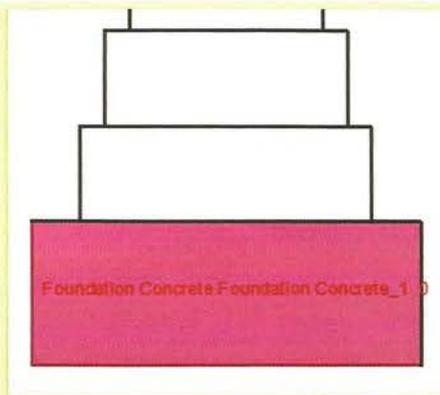

Fig 11: Foundation Concrete Area Takeoff
- Select the created item and use the 'Rectangle Area Takeoff' tool to select the foundation concrete area as follows (Figure 11).